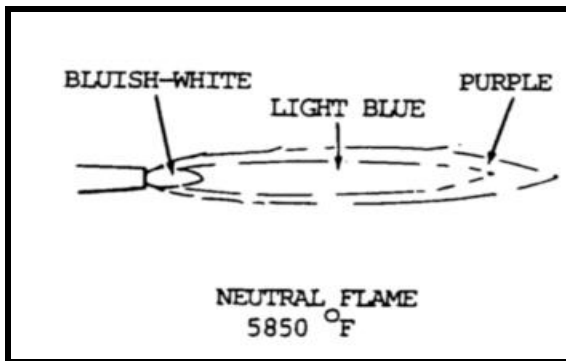
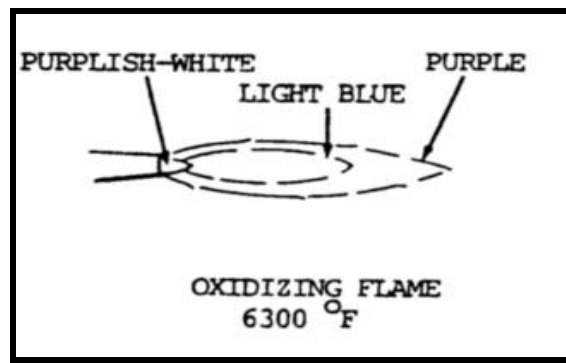

Figure-2: Schematic representation of Neutral flame.
Figure-4: Schematic representation of Oxidizing flame.
2.2 Types of Flames – There are three basic types of flames: neutral (balanced), excess acetylene (carburizing) & excess oxygen (oxidizing). They are shown in figure-2 to figure-4.
2.2.1: The neutral flame has a one-to-one ratio of acetylene and oxygen. It obtains additional oxygen from the air and provides complete combustion. It is generally preferred for welding. The neutral flame has a clear, well-defined, or luminous cone indicating that combustion is complete (figure-2).
The oxidizing flame is produced when slightly more than one volume of oxygen is mixed with one volume of acetylene. To obtain this type of flame, the torch should first be adjusted to a neutral flame. The flow of oxygen is then increased until the inner cone is shortened to about one-tenth of its original length. When the flame is properly adjusted, the inner cone is pointed and slightly purple (figure-4). An oxidizing flame can also be recognized by its distinct hissing sound. The temperature of this flame is approximately 6300°F (3482°C) at the tip of the inner cone.